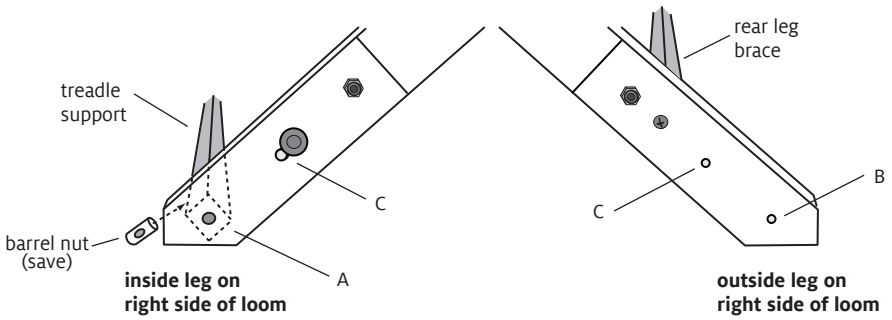

FIGURE 2: MIGHTY WOLF AND BABY WOLF LEGS
2. Set the treadle support on a block of wood or a few books to elevate the loom front about two inches. Remove the machine screws and barrel nuts that hold the treadle support to the inside legs at hole [A] (Figure 2). Save the barrel nuts for the next step.